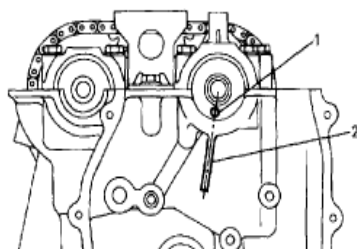

FIGURE 7.
7. Install 1st chain matching with gold or yellow plates with crankshaft sprocket Figure 7.